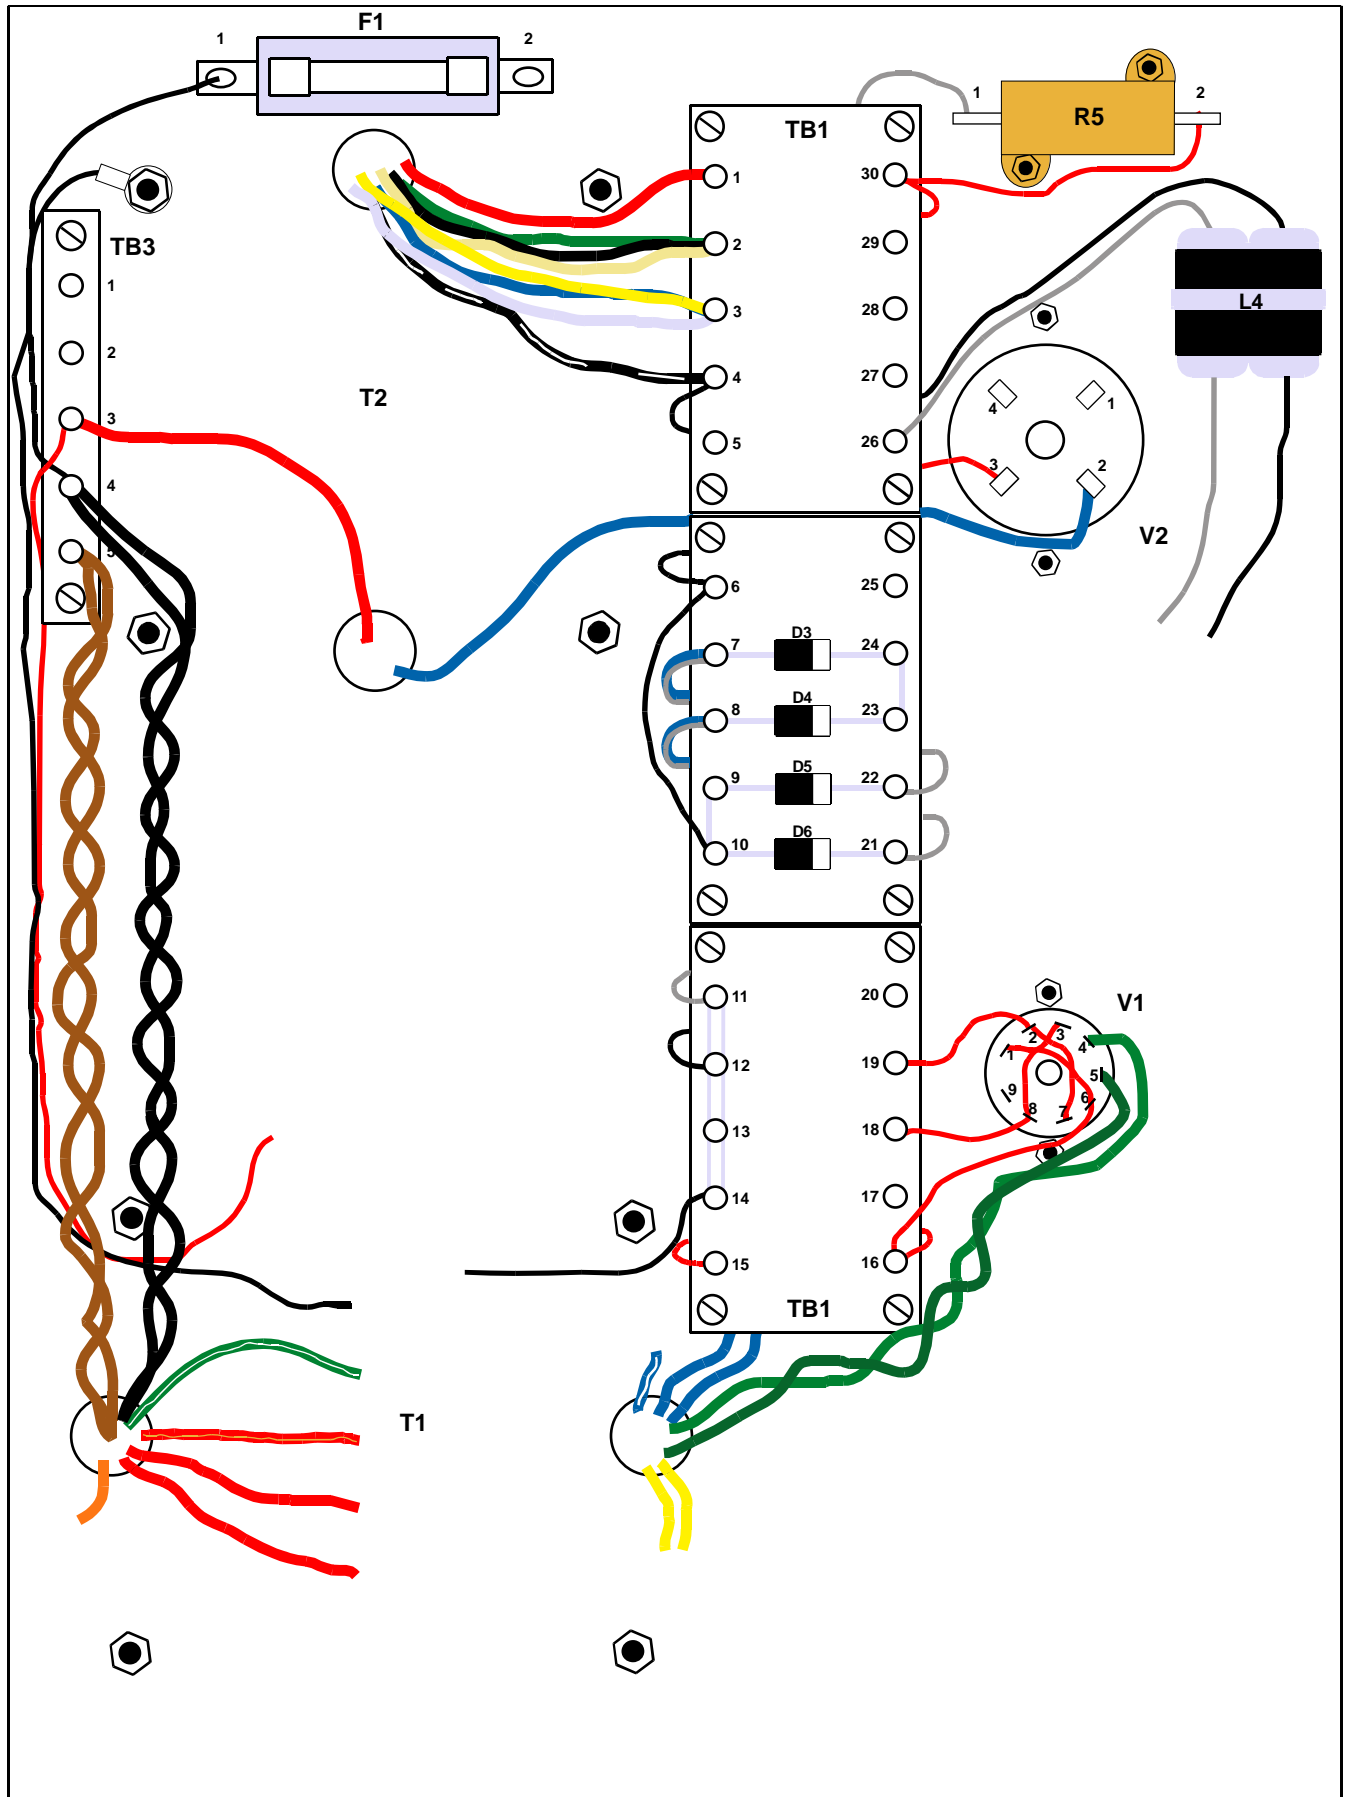

Figure 4
6) Locate the bag marked "D3,D4,D5,D6" and mount the diodes to TB1 as shown in figure 4. Note the polarity of the diodes when installing them. Install one diode between TB1-7 and TB1-24 leaving one lead long enough to wrap around and connect to TB1-23. Install the second diode between TB1-8 and TB1-23. Install the third diode between TB1-9 and TB1-22 leaving one lead long enough to wrap around and connect to TB1-10. Install the fourth diode between TB1-10 and TB1-21.
Cut a piece of the black hookup wire to a length of approximately 4 inches and length and solder one end to TB1-14. Leave the other end disconnected as shown in figure 4.
Locate the bag marked "H/W1" and remove one ring terminal, a star washer and a brass nut. Cut a piece of the black wire to a length of approximately 10 inches. Solder the ring terminal to one end of this wire. You will now attach this ring to the transformer bolt as shown in figure 4. First remove the nut that secures the transformer mounting bolt. Install the star washer onto the bolt and then re-install the nut and tighten securely so that the star washer digs into the bottom of the aluminum plate. Now place the ring terminal onto the bolt and secure with the brass nut. Just finger tighten this nut for the time being. The ring terminal should now be sandwiched between the two brass nuts. The other end of this wire will be soldered to the PS10 in a later step.
Cut a piece of the black hookup wire to length and solder one end to TB3-4 and the other end to F1-1 as shown in figure 4.
Cut a piece of the black hookup wire to length and solder one end to TB1-4 and the other end to TB1-12. Route the wire under terminal board TB1 as shown in figure 4.
Cut a piece of the white hookup wire to length and solder one end to R5-1 and the other end to TB1-11. Route the wire under terminal board TB1 as shown in figure 4.
Cut a piece of the black hookup wire to length and solder one end to TB1-6 and the other end to TB1-10. Route the wire as shown in figure 4.
Locate the Common Mode Choke L4 and solder its shortest black wire to TB1-6. Route the wire under terminal board TB1 as shown in figure 4. Solder its shortest white wire to TB1-26. L4 will be attached to the hardwood chassis in a later step.